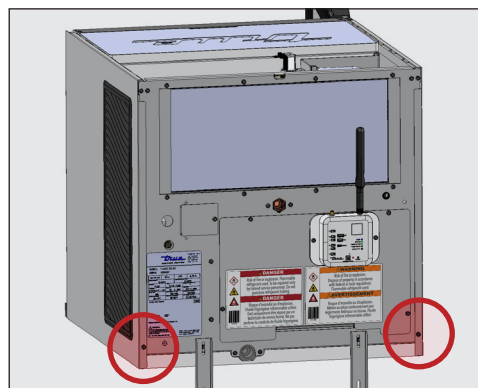

Fig. 5. Side panel screw locations.
3. Remove the side panel's rear screw. See fig. 5.